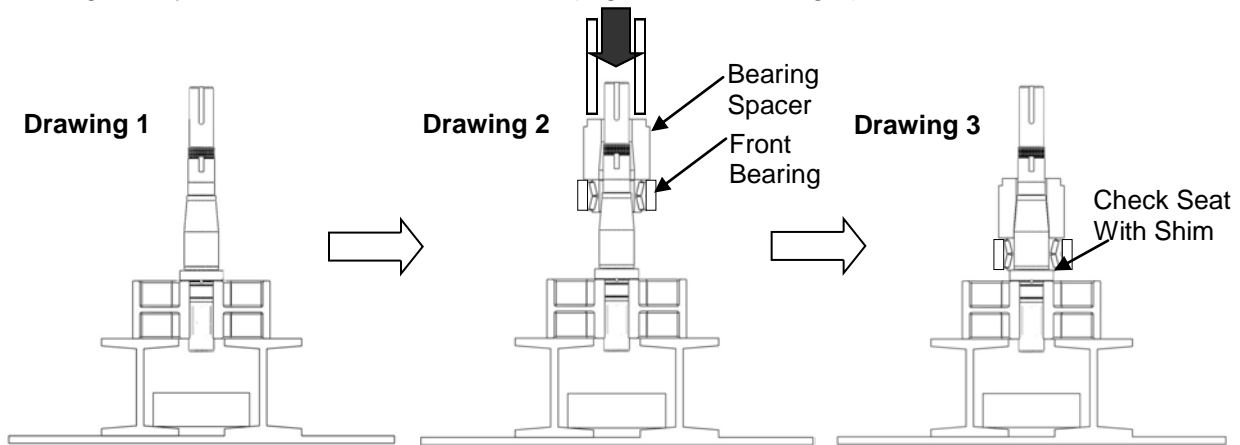

Figure 49: Pressing Front Bearing onto Shaft
1) Clean all reusable parts prior to reassemble. Apply a light coat of lubricant on the shaft area where the front bearing will sit. Position the shaft upright in the press with the splines facing down (Figure 49, Drawing 1). Open the new front bearing assembly and be sure not to interchange any parts. All bearings are manufactured as sets and assembled to have a precise overall length. Place the front bearing over the shaft along with the bearing spacer (Figure 49, Drawing 2). Make sure the bearing and spacer are aligned before pressing them on. Reference Table 5 for the required force (in tons) needed to press the bearings on to the shafts. Using a sleeve that rests on the bearing spacer and rides over the shaft, press the bearing on until it seats against the shaft shoulder. A shim can be used to ensure that the bearing is fully rested on the shaft shoulder (Figure 49, Drawing 3).